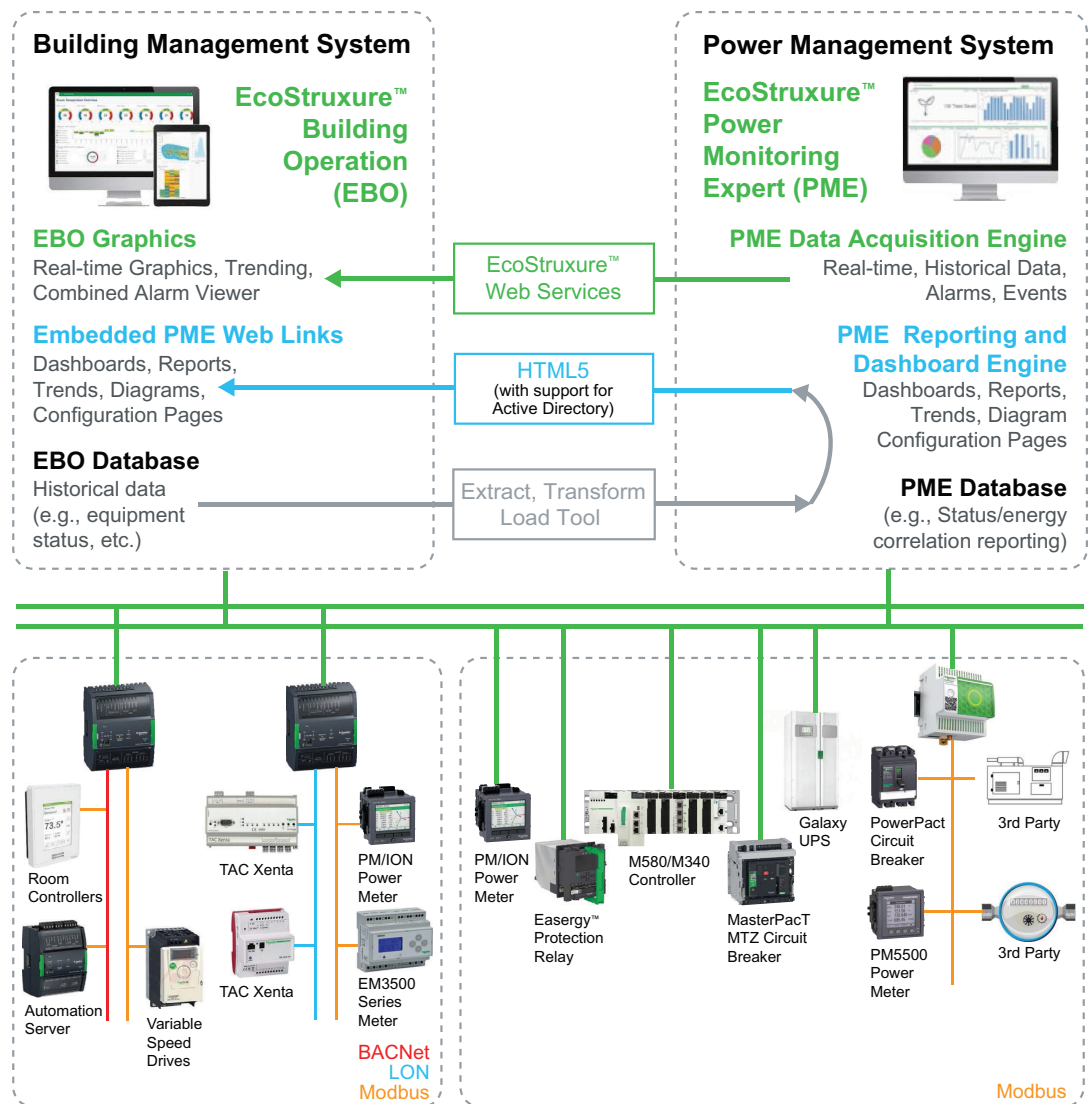

Figure 1
- A digital solutions provider with experience in both electrical and mechanical systems can also help the design firm save time by providing optimized, detailed designs for the digital layer. This can include pre-tested, validated ‘reference’ designs, such as those offered in a Schneider Electric partner program. Refer to the hospital smart infrastructure example in **Figure 1**.
- The EPMS and BMS solutions chosen should offer the out-of-the-box capability to communicate with connected devices, with support for all associated data types. This will simplify integration at the network level and data integration at the user interface level (see **Figure 1** for example).